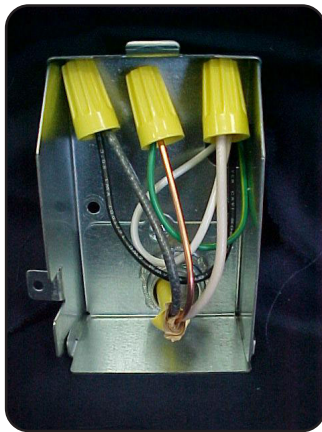

Figure 30
- 6 Press the wires into the junction box as shown in **Figure 30**. Make certain that the wire nuts do not loosen.